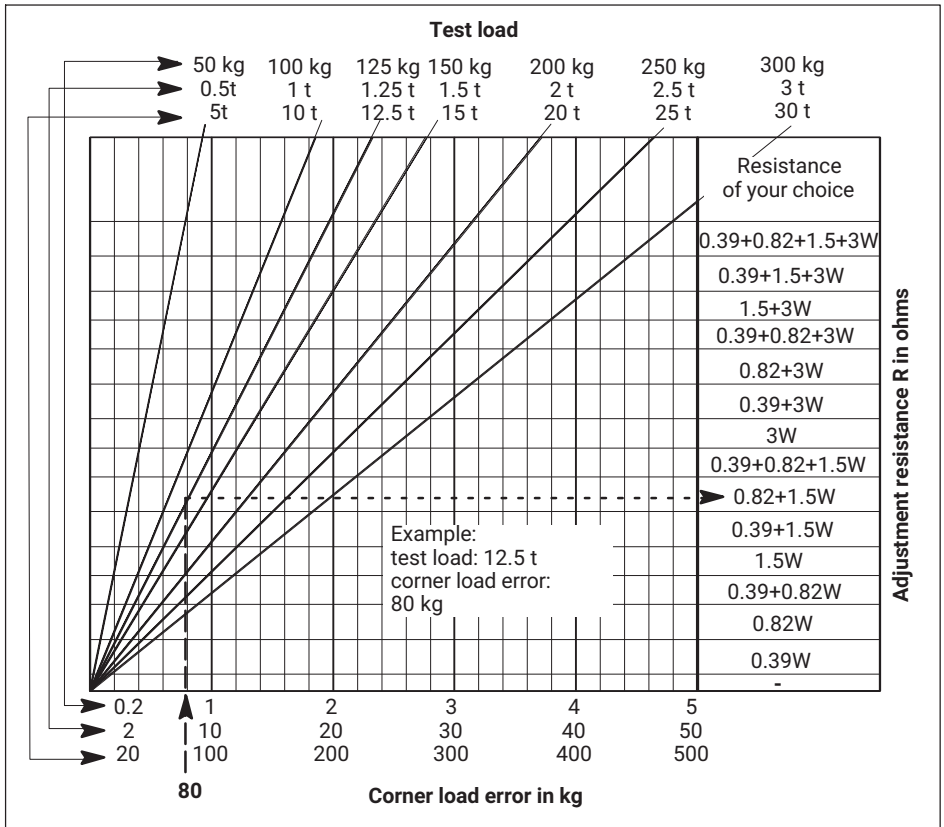

Fig. 8.2 Corner load balancing for 350 Ω load cells
- The chart (Fig. 8.2) is graduated in three test load ranges. Select the test loads used (50 kg...30 t) in the relevant line. Starting from the calculated corner load error difference on the X-axis, look for the intersection with the test load and then, on the Y-axis, read off the resistance and the most suitable combination. The resistance values here apply for 350  $\Omega$  load cells (see the table in the lid of the VKK...).
In our example, load cell 3 has a corner load error of 80 kg, which produces an adjustment resistance of  $1.5+0.82 \Omega$  (shown in Fig. 8.2).